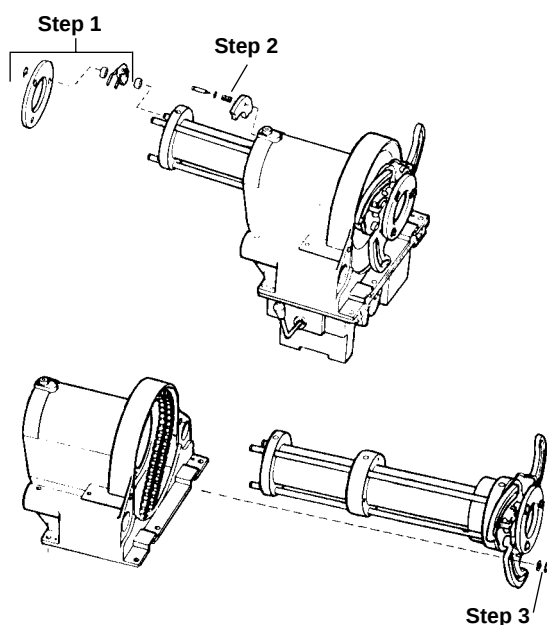

Figure 26 – Removing Brake Shoes
2. Remove three e-clips holding rear retainer in place and remove retainer. (Refer to Figure 26 Step 1.)
3. Remove three (3) brake shoes. (Refer to Figure 26.)